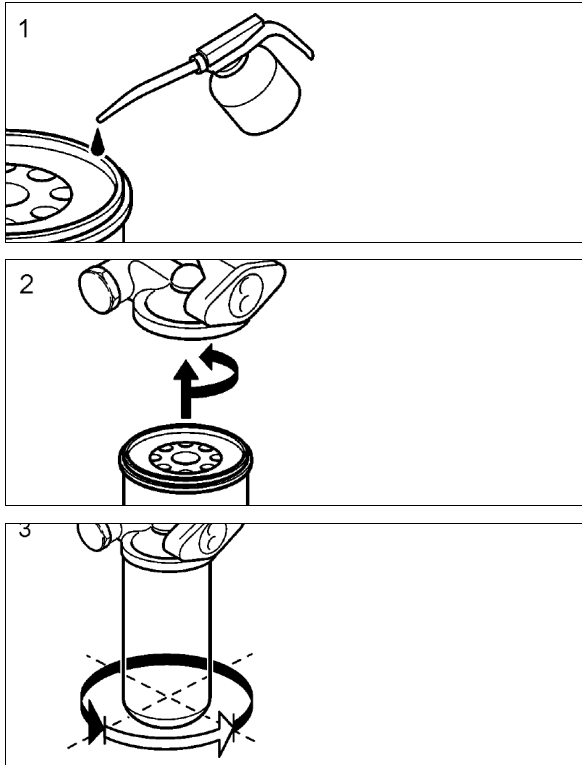

FIGURE 9: OIL FILTER REPLACEMENT
- Prefill the new oil filters with approved engine oil. Refer to Figure 9. Also, lubricate the filter gaskets with engine oil (1). Hand tighten the oil filters until they contact the sealing surface of the oil filter housing (2). Manually tighten the oil filters an additional 3/4 to 1 full turn (3).